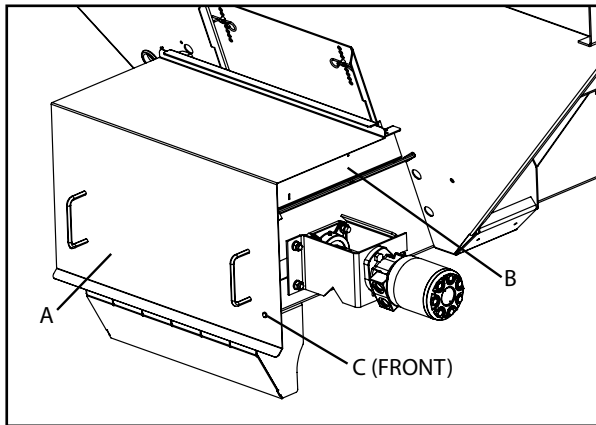

Figure 20B - Dual Conveyor Cover (Style II MULTAPPLIER)
Style II MULTAPPLIER - Remove rear plate of Material Divider. Place Cover (A) on Hillside Divider Support (B) as shown in Figure 20B and insert hair pins (C) through Cover pins. Reinstall rear plate of Material Divider.